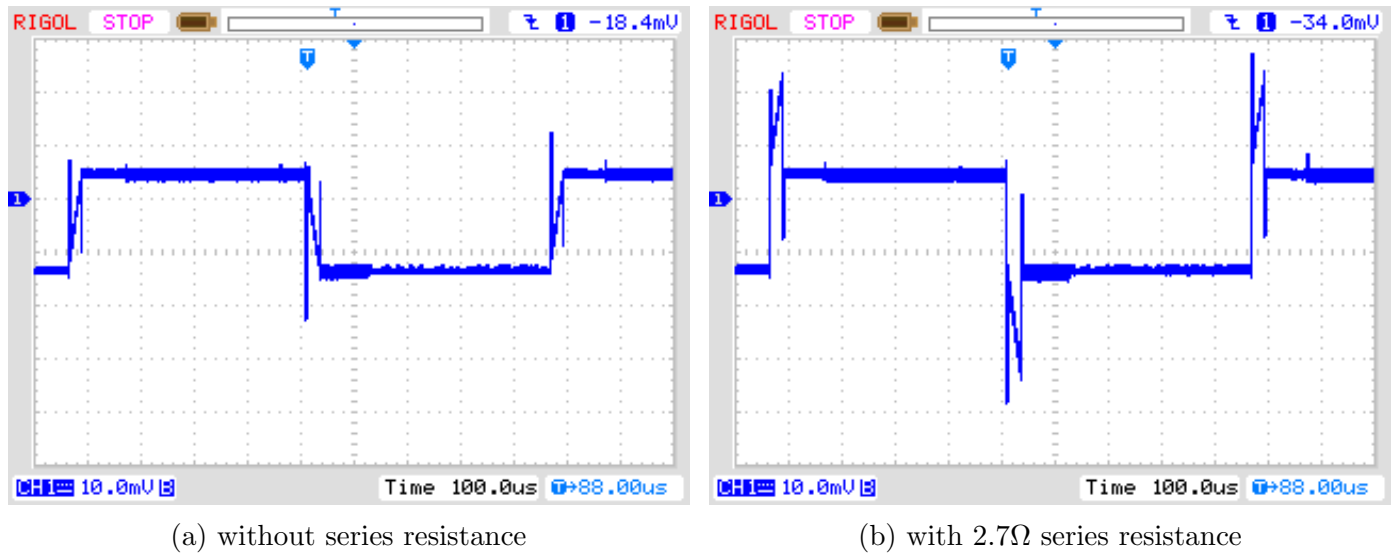

Figure 5.35: Voltage curve of a $10\mu F$ capacitor during new ESR measurement
Due to the shorter load puls not only the ESR of capacitors with lower capacity can be measured, but this way of measurement can also be used for the measurement of resistors with little resistance, if they don't have a detectable inductance. By doing that, a resolution of 0.01Ω for this resistors can be achieved. Also the zero resistance can be detected by the calibration part of the selftest for all three test pin combination. You should keep in mind, that stable plug sockets or clamping connectors are essential for stable results. The measurement periode is about $900\mu s$, which results to a frequency of about $1.1kHz$. Because the load pulse is very short, the measurement result is comparable to measurements with $10kHz$. A measurement example with a $10\mu F$ foil capacitor, once measured alone and once measures with a 2.7Ω series resistor is shown in figure 5.35. You can see the effect of the additional resistance by comparing both diagrams. You can see also, why the ADC measurement (SH) should point to the middle of the load pulse. With big capacity values the load current is nearly stable during the total pulse length, so you will get the middle voltage at the middle time of the load pulse. With lower capacity values you will get a significant difference, which can be compensated by the known capacity value.